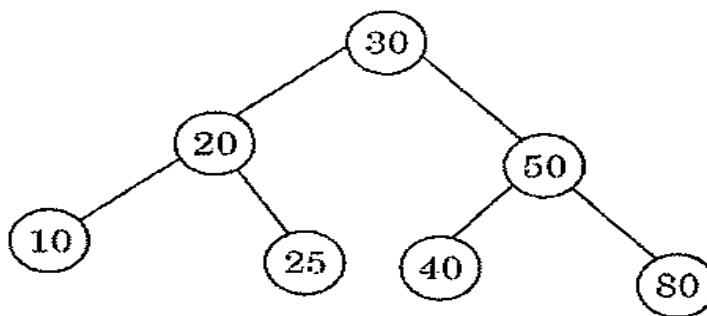

Figure. 1
- c)** Write Inorder, Preorder, Postorder traversal for the following tree. (Fig.1). **[6]**